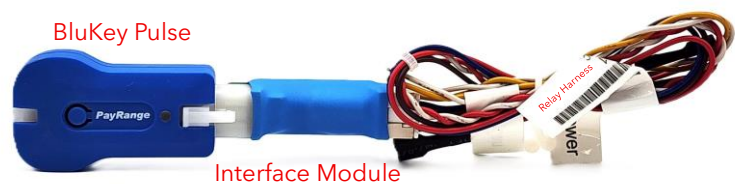

Figure 4
- Connect **Relay Harness** to the other end of the **Interface Module** (See **Figure 4**)